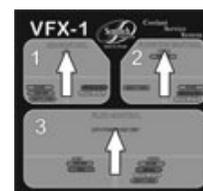

Figure 4
- 11) Return AIR CONTROL valve #1 and FLUID CONTROL valve #3 to **OFF** position. Turn FUNCTION CONTROL valve #2 to **HOLD** position. (Fig 4)